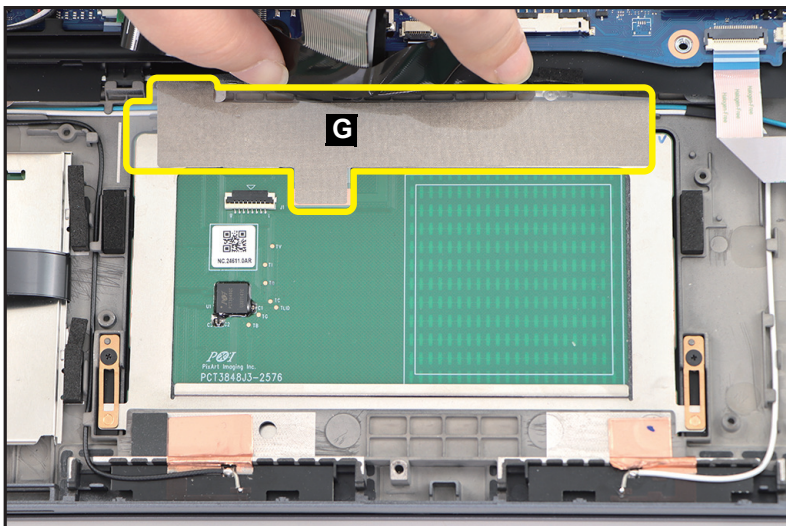

Figure 1-60. Touchpad Module Removal
6. Detach the conductive tape (G) from the touchpad module and top assembly (Figure 1-60).